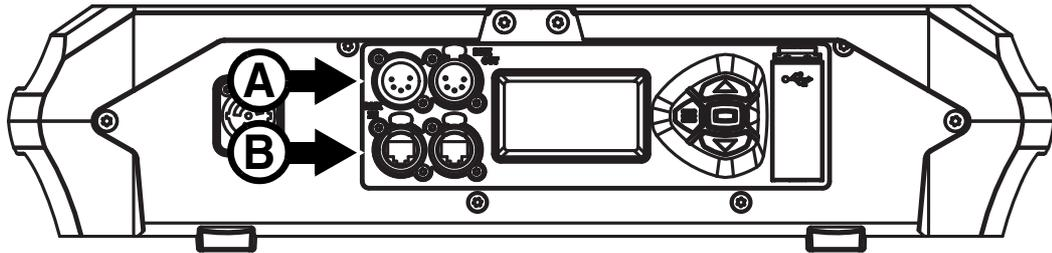

Figure 8: Data connections
- one pair of XLR sockets (**A** in Figure 8), and
- one pair of etherCON sockets (**B** in Figure 8).
The MAC Ultra Wash has 5-pin locking XLR sockets (see **A** in Figure 8) for DMX and RDM input and output via DMX cable. The default pin-out on both sockets is:
The MAC Ultra Wash has Neutrik etherCON data sockets (see **B** in Figure 8) that support DMX and RDM over Art-Net and sACN as well as Martin P3 video. Either socket can be used for input and the other socket used for throughput.